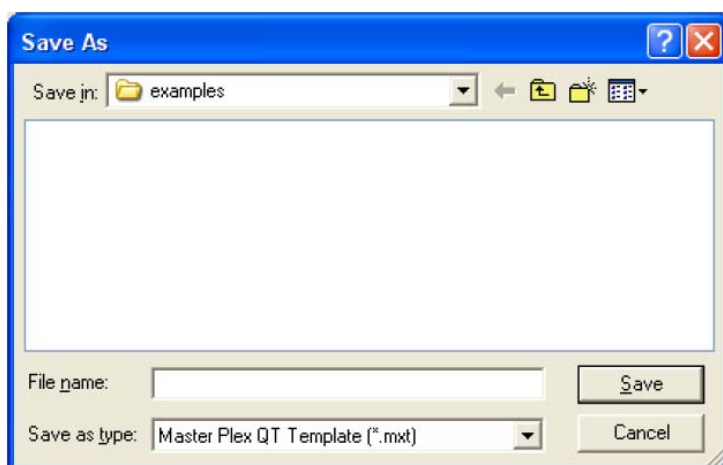

Figure 4.20 Save As dialog box
- ⇒ The Save As dialog box appears (Figure 4.20).